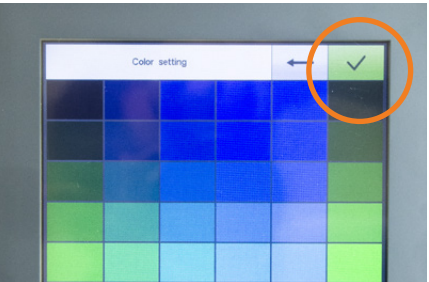

Figure 94
3. Sort through the pages of color options and select the color that best matches the corresponding thread spool. **See Figure 94.**